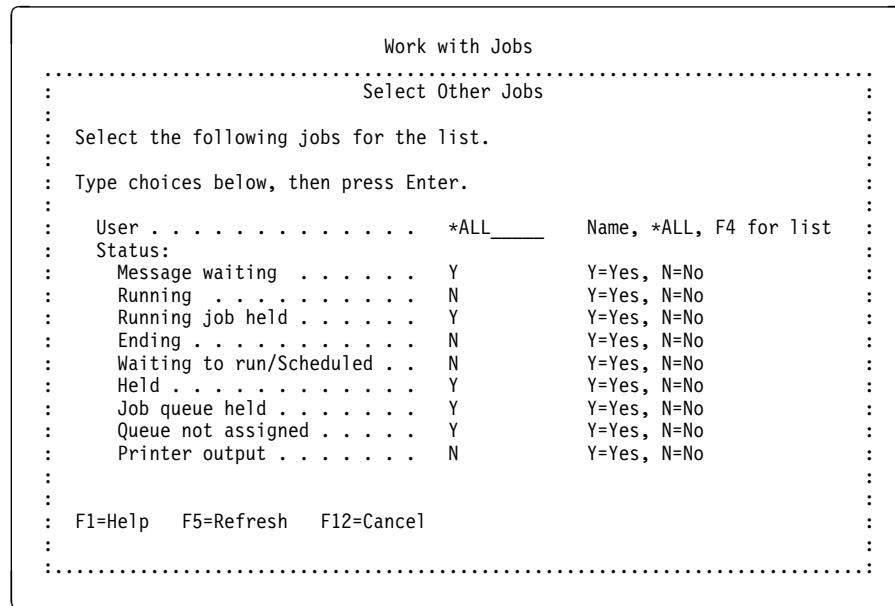

Figure 8-1. Select Other Jobs Window
3. Type the status values as shown in Figure 8-1 on page 8-3 in the Select Other Jobs window.